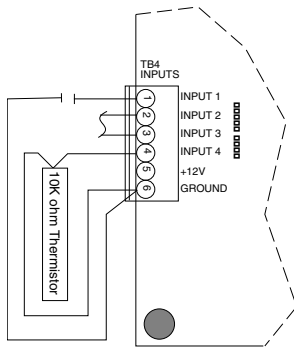

Figure 4. Input Device Connections
1. Connect the external input devices (contact or thermistor) leads to terminals TB4-1 (Input 1) through TB4-4 (Input 4), see Figure 4.